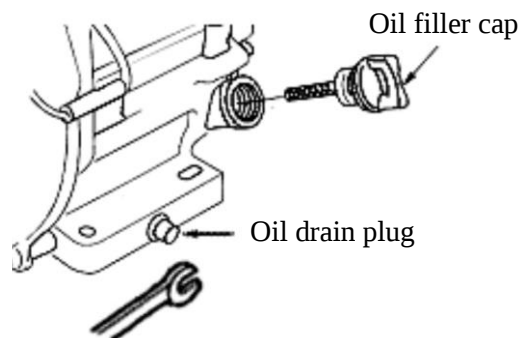

Fig. 12
- Remove both oil filler cap (8) and oil drain plug, then completely drain the waste oil in a container. See Fig. 12.